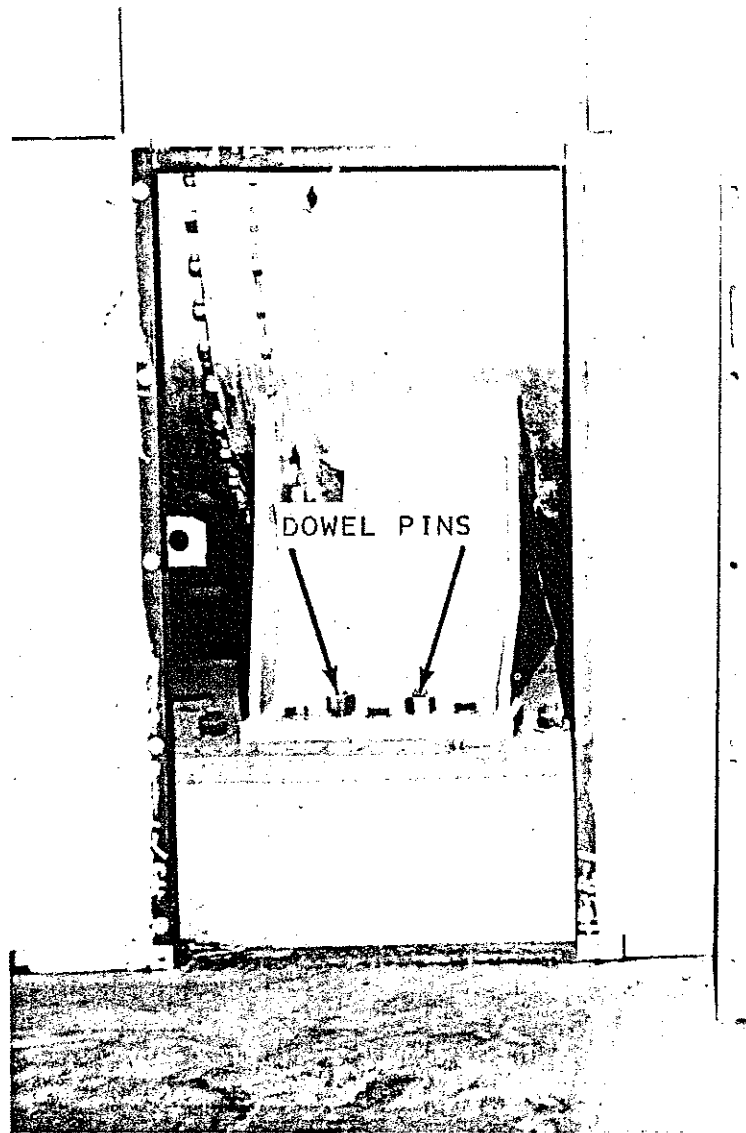

FIG. 9. DOWEL PINS
- n. Remove two dowel pins from base of compressor (see Figure 9).